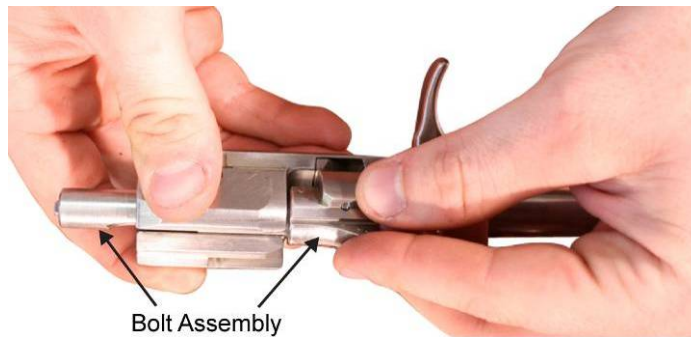

Figure 2. Disengaging the Bolt Cam from the Cam Recess.
2. Rotate the bolt assembly to disengage the bolt cam, located on the rounded locking lug, from the machined cam recess of the bolt carrier. Refer to Figure 2.